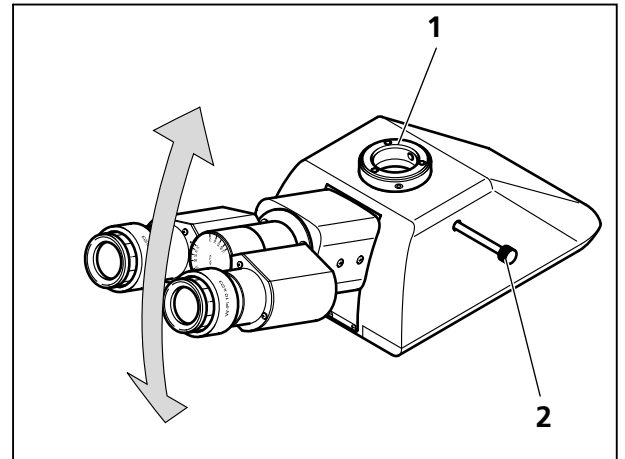

Fig. 3-13 Ergonomic binocular phototube
- To set the best ergonomic viewing angle, swivel the binocular component (see Fig. 3-13) up or down.